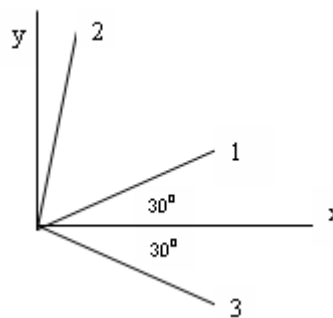

Figure 1:
4. On a plate of material ($E = 25 \times 10^6$ psi, $\nu = 0.25$) strain gages are arranged as shown in fig 1. When the plate is loaded, the gages read $e_1 = 1.86 \times 10^{-6}$, $e_2 = 185 \times 10^{-6}$ and $e_3 = 1330 \times 10^{-6}$.